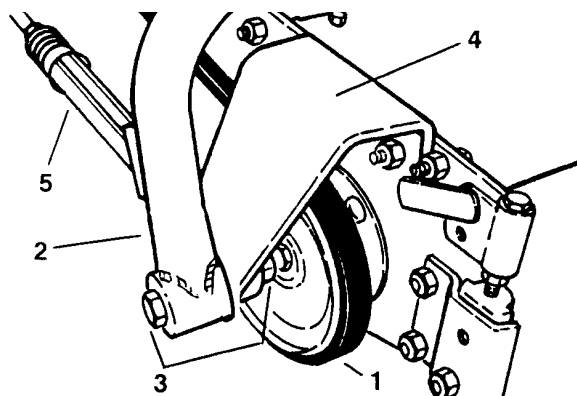

Figure 46
1. Route (3) V-belts (two in loose parts) around the jackshaft pulleys and reel pulleys (Fig 46).
1. On pulley end of the front cutting units and both ends of the rear cutting unit, remove the nut from the bolt securing the carrier frame to the tensioner bracket (Fig. 46).
1. On the pulley end of the front cutting units and both ends of the rear cutting unit, install a washer, spacer, belt tension rod and spacer on a capscrew (Fig 46).